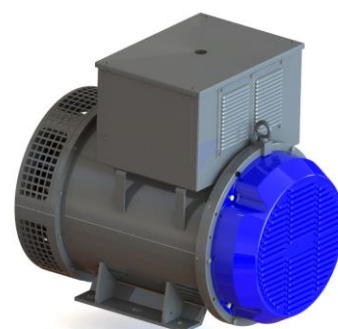
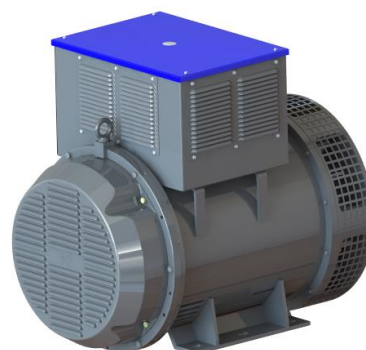

Figure 14.17: Exciter inspection cover
Figure 14.18: Terminal box cover
1. Remove the inspection cover of the exciter and terminal box cover, according to Figure 14.17 and Figure 14.18.